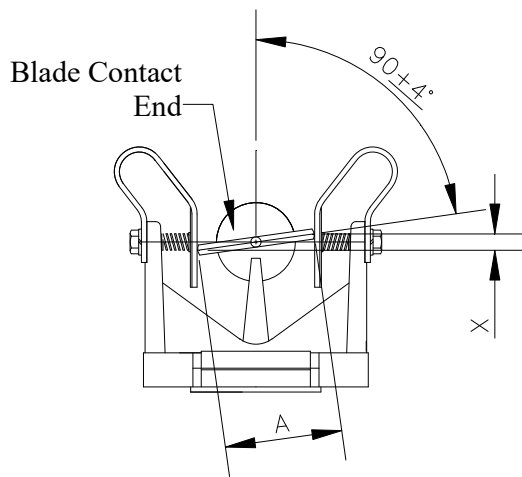

Fig. 5 End View Showing Blade Contact Angle
Blade Contact Angle— (Fig. 5) The allowable difference in elevation from one side of the blade contact to the other (dimension X) is 1/16" for each 1" of contact width. Example: If contact width (A) is 4 1/2", then dimension (X) can be as much as 9/32" and still be within the plus or minus 4 degree tolerance.
Also, Fig. 5 shows blade contact high on the right and low on the left. The reverse is also acceptable, high on the left and low on the right. It is common to have both situations on one three-pole switch. In fact, after all three poles have been adjusted in the open position, and then closed, you